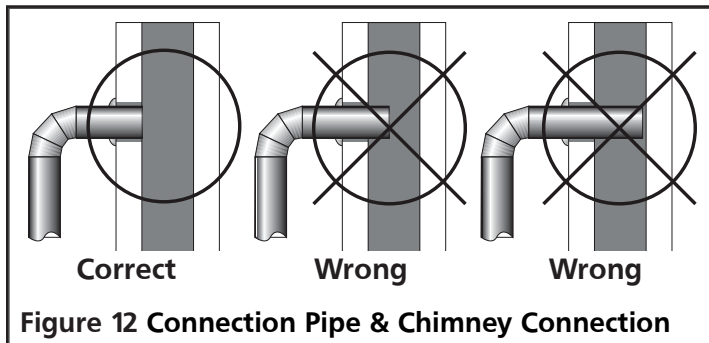

Figure 12 Connection Pipe & Chimney Connection
2. The chimney connection must not be obstructed by the chimney connector pipes, such as the figure 12 below illustrates.